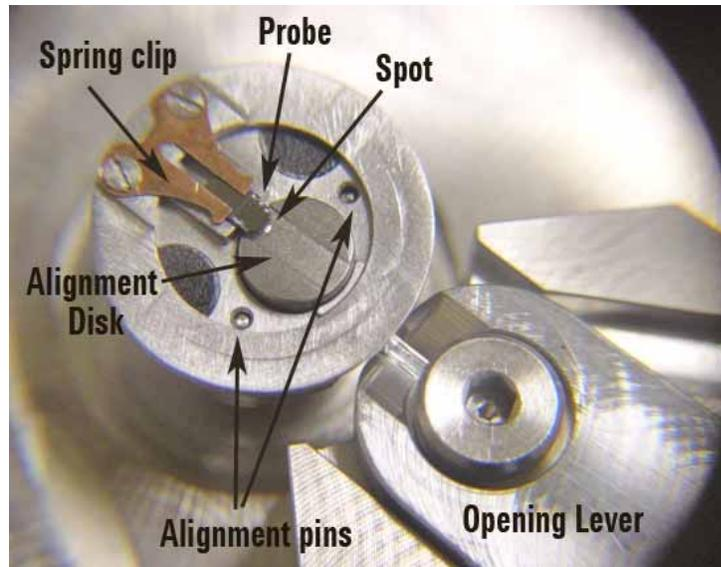

Figure 42 Two-piece nose assembly disk on jig
- 1 Place the nose assembly disk on the assembly jig, as shown in Figure 42. Make sure that it aligns with the center disk and two small alignment pins.
- 5 A small alignment spot on the jig (Figure 42 on page 58) indicates the proper location for the cantilever tip. Place the probe such that the tip is close as possible to this spot.